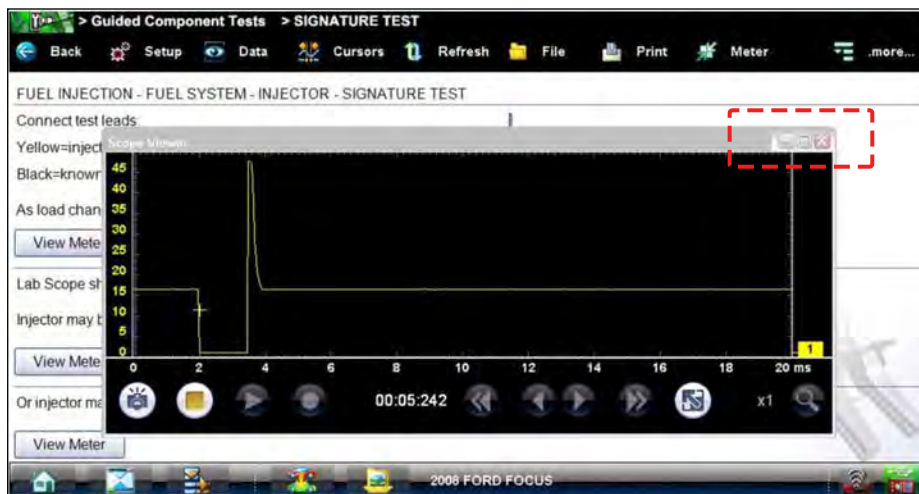

Figure 7-11 Sample meter view in a separate window
2. Select the **Meter** icon a second time and the meter opens as a separate window (Figure 7-11). This window can remain open if you switch to the Scan Module and can be accessed from the Windows toolbar at the bottom of the screen. You can also resize and reposition the meter window on the screen.